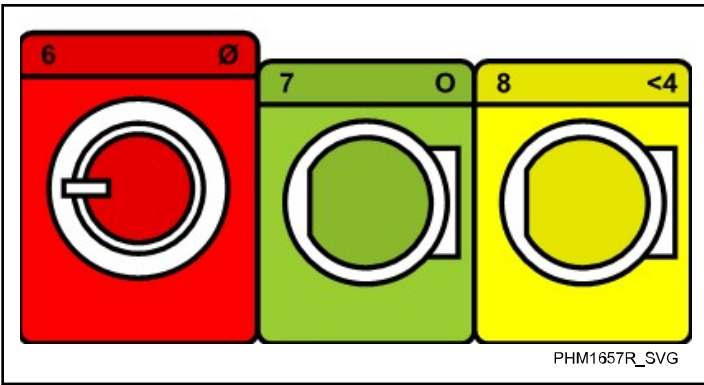
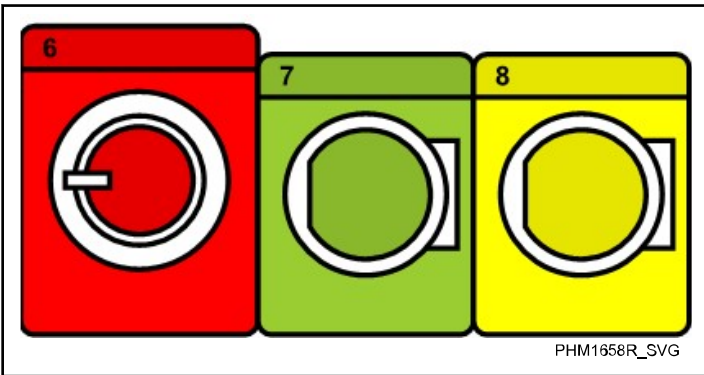

Figure 53
Figure 54
4. Users can choose between 2-dimensional (refer to *Figure 53* and *Figure 54*) and 3-dimensional machines in their viewers by checking the "Use 3D Machines" checkbox. When 3D machines are used, users can click on running machine animation by using the "Animate running machines" checkbox.